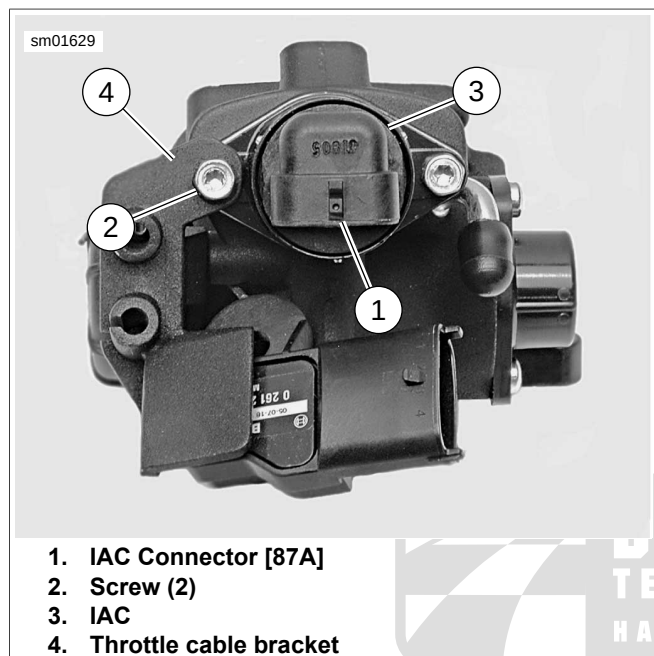

Figure 4-51. IAC Removal/Installation: XL Models
3. See Figure 4-51. Unplug harness connector [87B] from IAC connector [87A] (1).
- a. See Figure 4-51. Apply a drop of LOCTITE 243 MEDIUM STRENGTH THREADLOCKER AND SEALANT (blue) to the threads of each screw (2).
- b. Install two screws (2).
8. Plug harness connector [87B] into IAC connector [87A] (1).